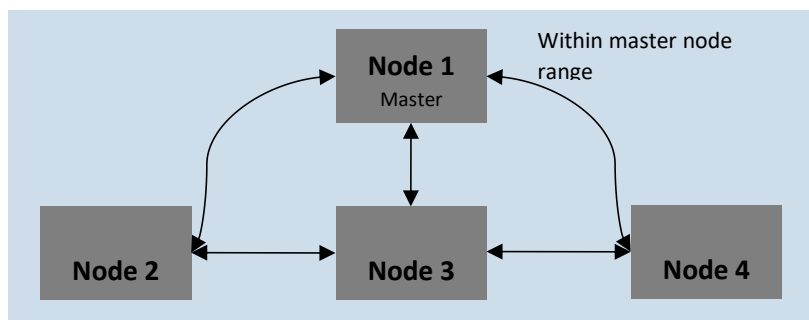

Figure 4-2: multipoint network diagram example
A few notes on the multipoint network (see Figure 4-2):
- Based on the topology depicted in Figure 4-2, for Node 3 to communicate with Node 2, Node 1 (the base) and Node 2 must be within the RF range, and